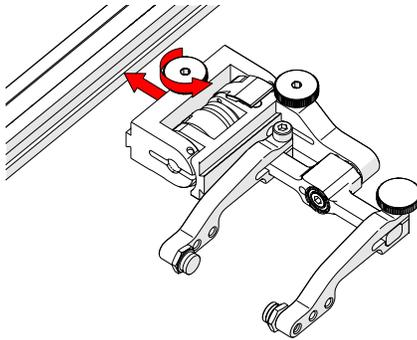

Fig. 99 - Attach to frame bar
1. Rotate the probe holder adjustment knob and attach the probe holder to a frame bar (Fig. 99).